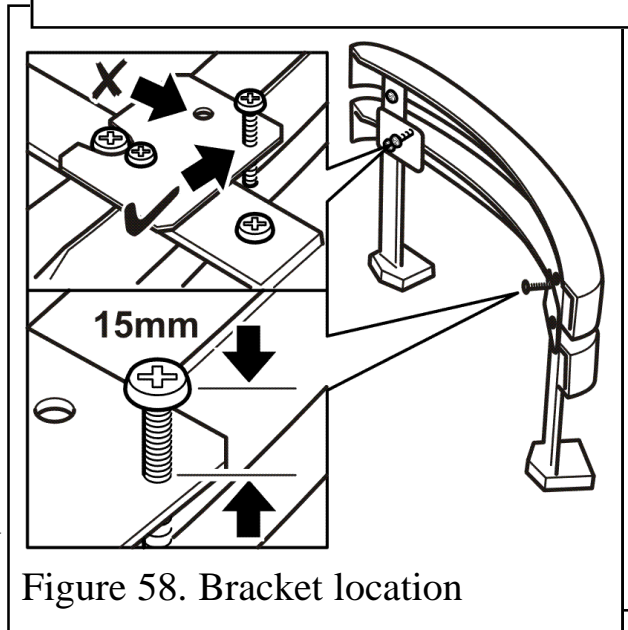

Figure 58. Bracket location
2. The screw should be set at a distance of 15mm (Measured from the surface of the bracket to the underside of the screw head). Adjust the screw to this distance (See figure 58).